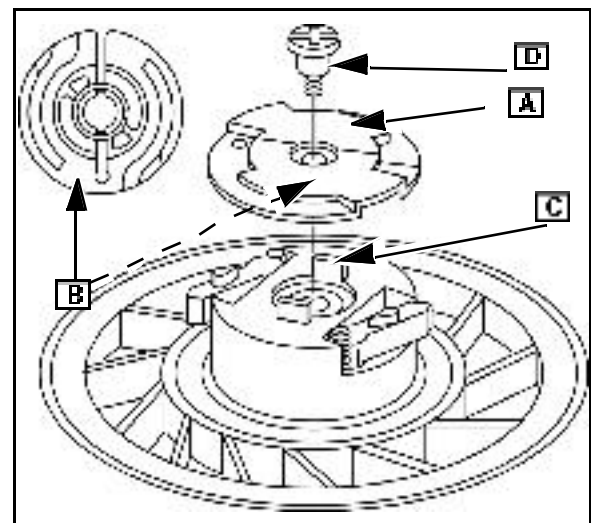

Fig. 10
5. Install retainer (A) making sure that slots (B) in retainer engage tabs (C) Fig. 10) on pulley.
6. Hold retainer down, compressing pawl springs and install retainer screw. Torque screw (D) to listed value. See SECTION 14- ENGINE SPECIFICATIONS.